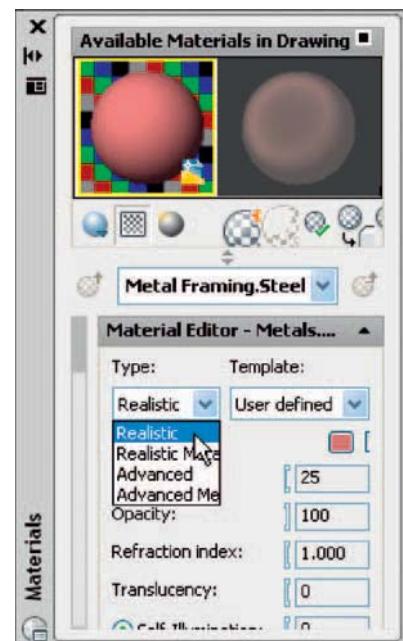

Fig. 15.35 Select **Realistic** in the **Type** drop-down menu
5. Right-click in the **Type** field of the **Material Editor** section of the palette and select **Realistic** in the right-click menu (Fig. 15.35).